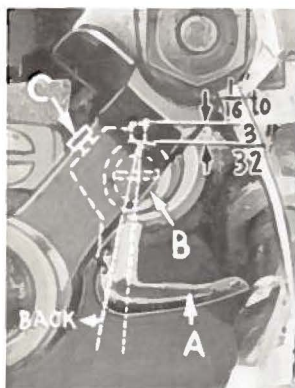

Fig. 8
Insert upper looper (A, Fig. 8) in its holder. Screw (B) holds upper looper in its holder, and permits it to be pushed in or out or turned around its shank. Insert upper looper holder into upper looper shaft, if it is not already in place. Screw (C) on clamp holds the upper looper holder in the shaft. Locate upper looper in its holder so that the shank extends $\frac{1}{16}$ to $\frac{3}{32}$ inch beyond holder.
When the upper looper is at the right end of its stroke, upper looper holder should be set to position upper looper shank back of vertical (Fig. 8).